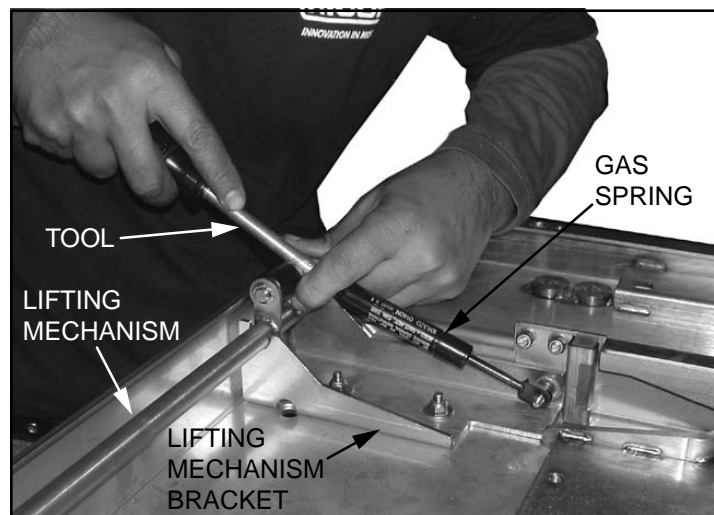

FIGURE 4-8: GAS SPRING INSTALLATION
- d. Refer to **Figure 4-8**. Attach gas spring to lifting mechanism bracket then use a tool for leverage to attach the gas spring to the lifting mechanism.